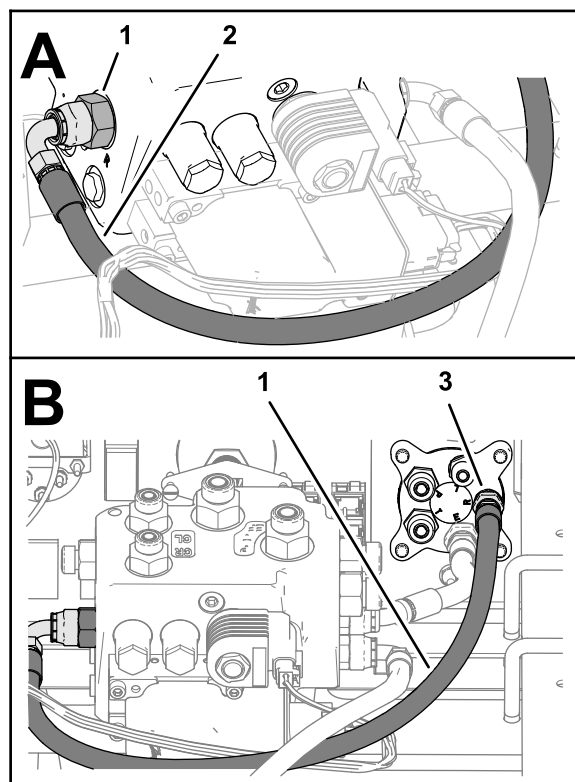

Figure 69
5. Assemble the 90° fitting of the hose 6 x 673 mm (1/4 x 26-1/2 inches) into the port R fitting of the EHI steering valve (Figure 69).
6. Assemble the straight fitting of the hose 6 x 673 mm (1/4 x 26-1/2 inches) into the port R fitting of the steering valve, and tighten both hose fittings (Figure 69).